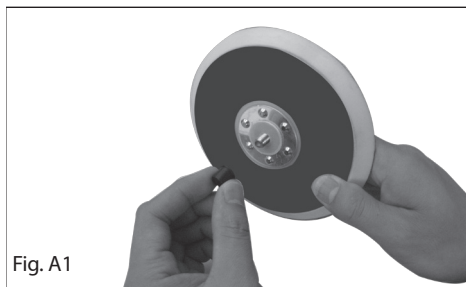

Fig. A1
1. ASSEMBLING OR CHANGING THE SANDING PAD (See Fig.A1-A2)